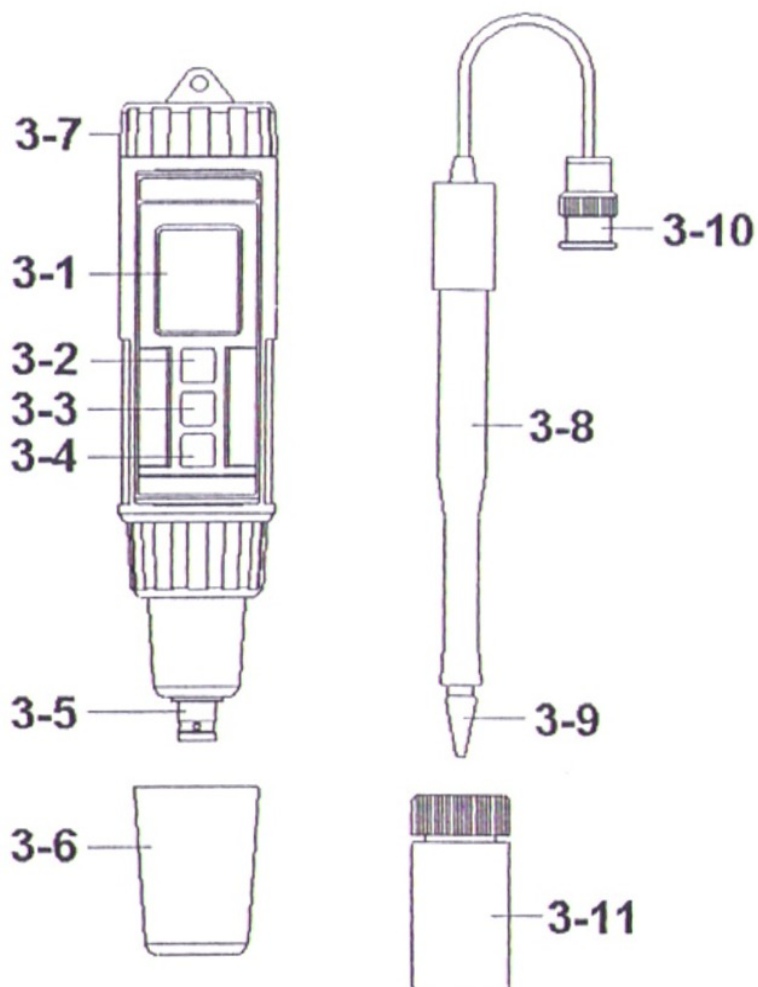

Fig. 1
- 2) Power on the instrument by pressing the " Power button " (3-2, Fig. 1).
- 3) Press the " Hold button " (3-3, Fig. 1) once.
Press the " ▼ button " (3-4, Fig. 1) once, the display will show following screen in sequence.
Press the " Hold button " (3-3, Fig. 1) once.
- 3) Press the " Hold button " (3-3, Fig. 1) once. the display will show the " HOLD " symbol. Press the " ▼ button " (3-4, Fig. 1) once, the display will show following screen in sequence.
- 4) Press the " ▼ button " (3-4, Fig. 1) once, the display will show :
- 1) Power on the instrument by pressing the " Power button " (3-2, Fig. 1).
- 2) Press the " Hold button " (3-3, Fig. 1) once. the display will show the " HOLD " symbol. Press the " ▼ button " (3-4, Fig. 1) once, the display will show following screen in sequence.
- 3) Press the " ▼ button " (3-4, Fig. 1) once 3 times, the display will show :
- 5) Press the " Hold button " (3-3, Fig. 1) once.
- 1) Connect the pH electrode plug (3-10, Fig. 1) to the BNC socket (3-5, Fig. 1) and place electrode into the measured solution.
- 2) Power on the meter by pressing the " Power button " (3-2, Fig. 1).
- * *After calibration, the " Electrode sensing head " (3-9, Fig. 1) should insert into the " Protection bottle " (3-11, Fig. 1).*
During the measurement, press the " Hold button " (3-3, Fig. 1) once will hold the measured value & the LCD will display a " HOLD " symbol.
During the measurement, press the " Display reverse button " (3-4, Fig. 1) once will reverse the display direction for the user convenience.
- 2)To replace the battery, rotate and remove the " Battery Cover " (3-7, Fig. 1), take out the old batteries, install new batteries :